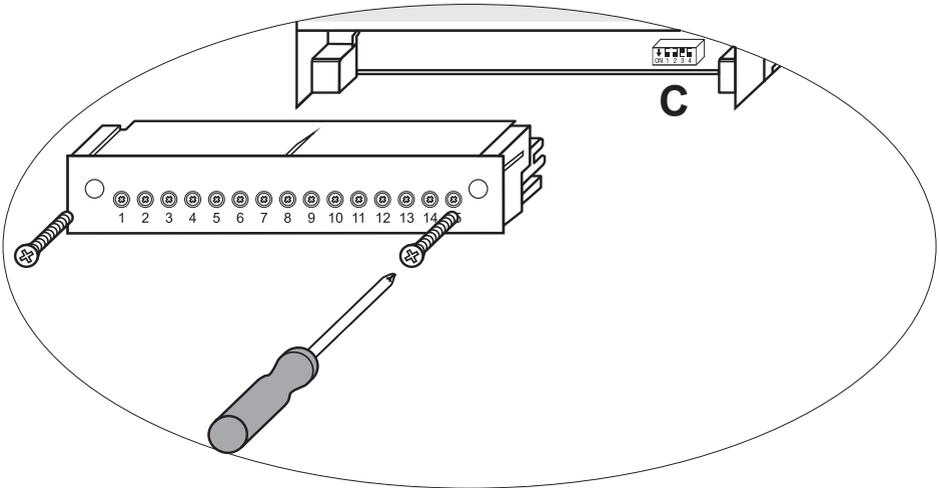

Fig. 12
See Figure 12
- Lower terminal strip: Unscrew the left and right fixing screws. Fig. 12